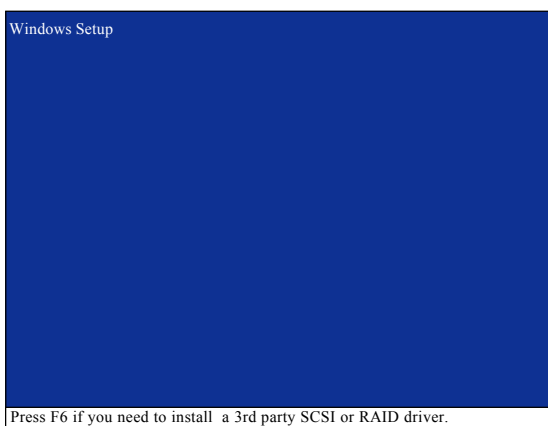

Figure 15
Step 1: Restart your system to boot from the Windows 2000/XP Setup disk and press F6 as soon as you see the "Press F6 if you need to install a 3rd party SCSI or RAID driver" message (Figure 15). After pressing F6, there will be a few moments of some files being loaded before you see the next screen.